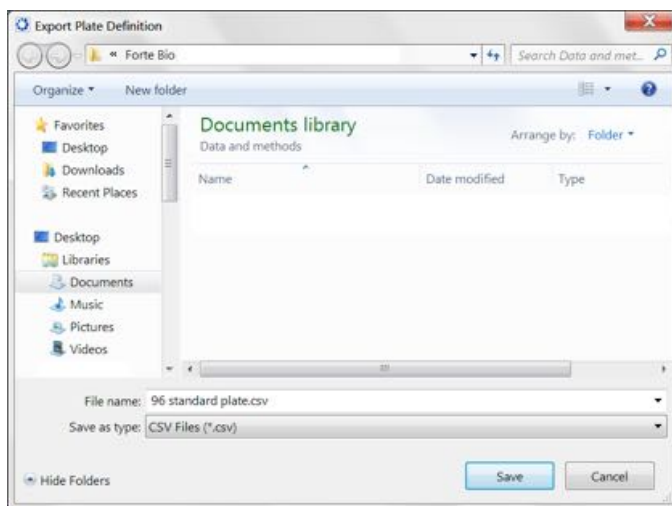

Figure 5-22: Export Plate Definition Window
2. In the **Export Plate Definition** window (see Figure 5-22), select a folder, enter a name for the plate (.csv), and click **Save**.